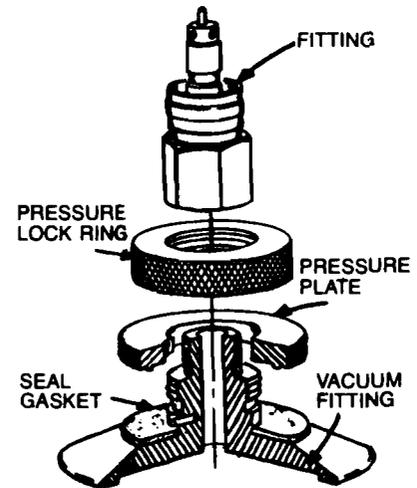

Figure 7-7. Vacuum fitting assembly (thru bag)
**THE VACUUM CONNECTION** can be a length of copper or aluminum tubing going through the edge seal of the bag. Be sure to use plenty of sealant around the tube, as this is a common source of bag leakage. A better method of attaching the vacuum line is to use a flanged fitting, like that shown in Figure 7-7.